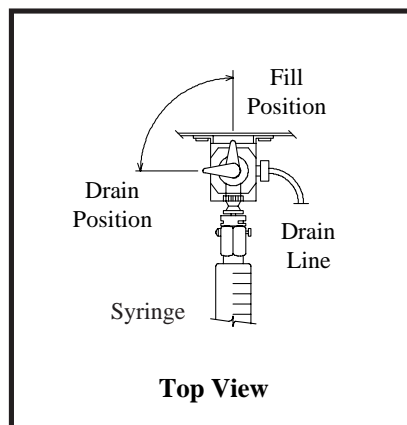

Figure 4.9. Sample Valve Positions
2. Confirm the proper sample valve position for drain (see Figure 4.9). Press [2nd] [CLEAR] to drain. Verify drain by pressing [ENTER].
3. Turn the sample valve handle to the **fill** position (see Figure 4.9).
1. Disable the Model 4560 drain by pressing [2nd] [TIME]. Select states, flows, and desorb, then turn the drain off (refer to Figure 4.9).